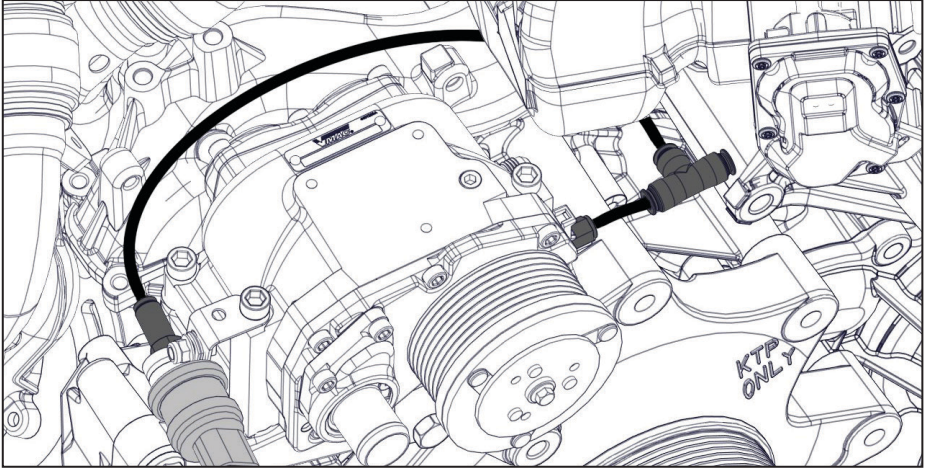

Figure 23 — Connect pressure switch
- Cut a 6 in length, from the 24 in spool of 1/4 in PTFE tubing to connect the Tee union to the compressor (Figure 23).
- Connect the PTFE tube to the pressure switch and route it over/behind the compressor to the Tee union (Figure 23).
- Ensure the OEM vacuum lines and wiring are not pinched. The vacuum lines and/or wiring may need to be disconnected to route them correctly (Figure 23).